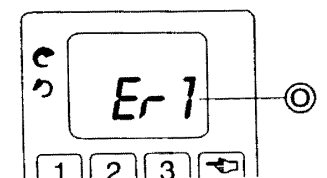

FIG.10 ERROR
- O - ERROR SYMBOL** - Er 1 indicates power base overload condition. Er 2 indicates memory module failure. (see Fig.10)
ERROR SYMBOL (O) Fig.10 on the display indicates power base overload. This situation occurs when either the product is too viscous or the speed is too high. Switch off power to reset power base. Reduce speed and/or change viscosity of product.